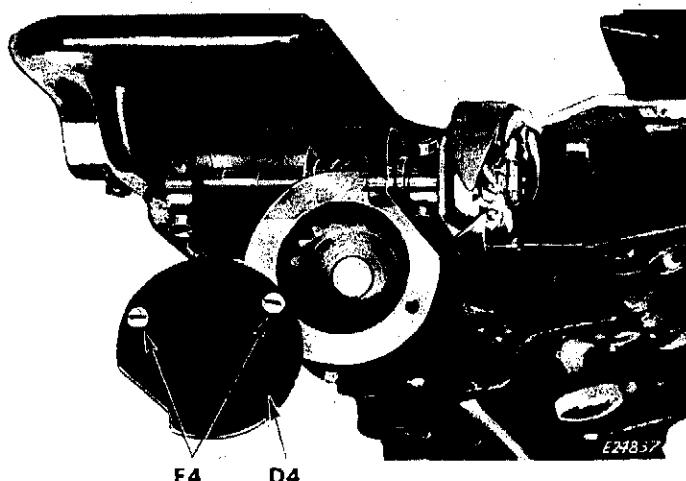

Fig. 262. To Grease Hook Shaft Gear Case
**CAUTION:** The grease, packed in the hook shaft gear case under the bed of the machine as shown in Fig. 262, does not require changing unless this section of the machine has been submerged in cleaning fluid. When necessary, remove the two screws at **E4**, Fig. 262 and the gear case cover **D4** from gear case. Then repack the gear case with **SINGER GEAR LUBRICANT**.